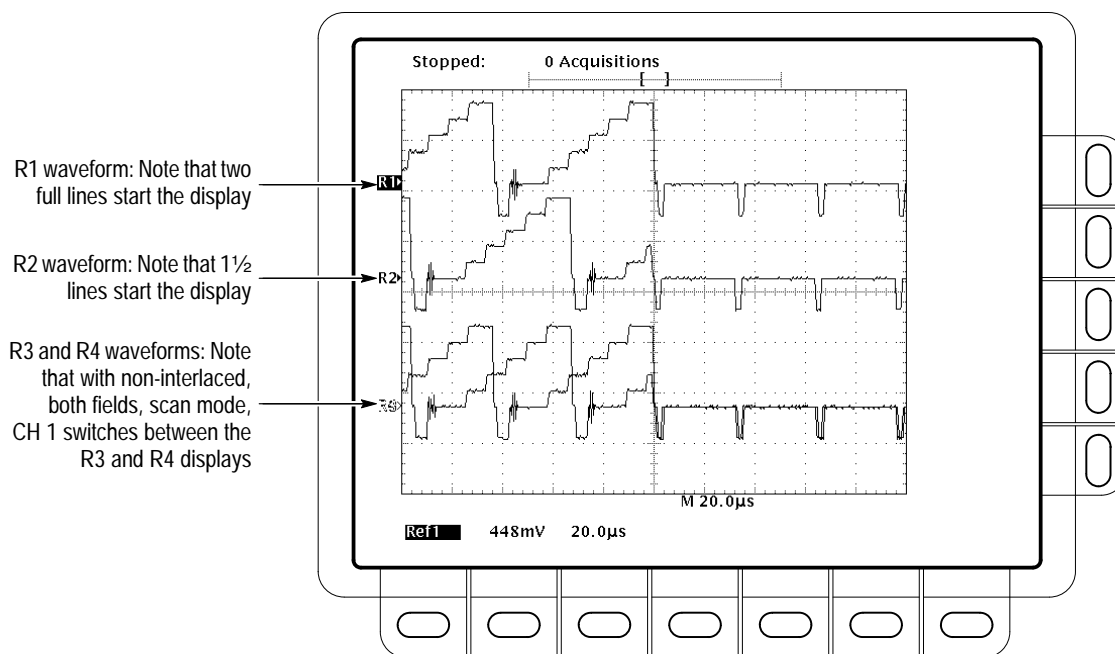

Figure 1–19: Measurement of Video Sensitivity
- CHECK that a stable trigger is obtained with the last of TV field 1 and the beginning of TV field 2 displayed. (If the last line is  $\frac{1}{2}$  of a TV line duration ( $31.75 \mu\text{s}$ ), then it is the end of field 1 — see waveform R2 in Figure 1–19.)
- CHECK that a stable trigger is obtained while alternating between field 1 and field 2. (If the last line is alternating between a full TV line and  $\frac{1}{2}$  a line in duration ( $63.5 \mu\text{s}$  and  $31.75 \mu\text{s}$  respectively), then triggering is occurring on both fields — see waveforms R3 and R4 in Figure 1–19.)